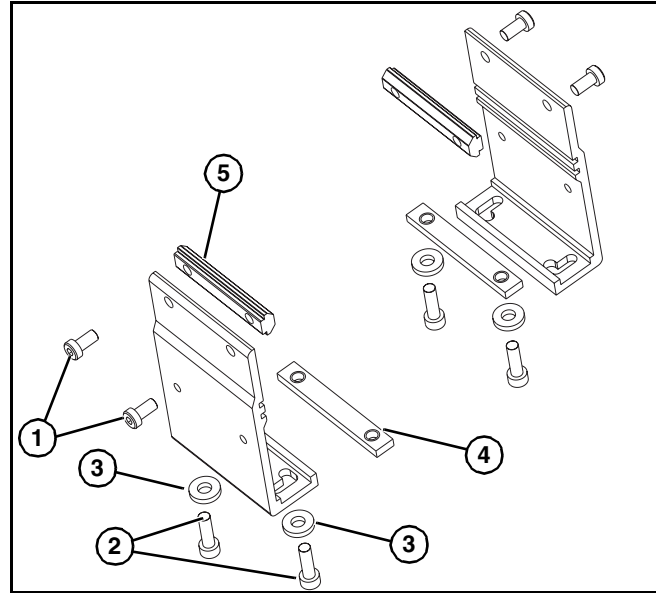

**Figure 9**
5. With a 5 mm hex-key wrench, rotate pinion gear (**Figure 9, item 1**) to tension the conveyor belt. Tighten fastening screws (**Figure 9, item 2**) on both sides of conveyor to 80 in-lb (9 Nm). For proper tensioning, refer to “Conveyor Belt Tensioning” on page 17”.